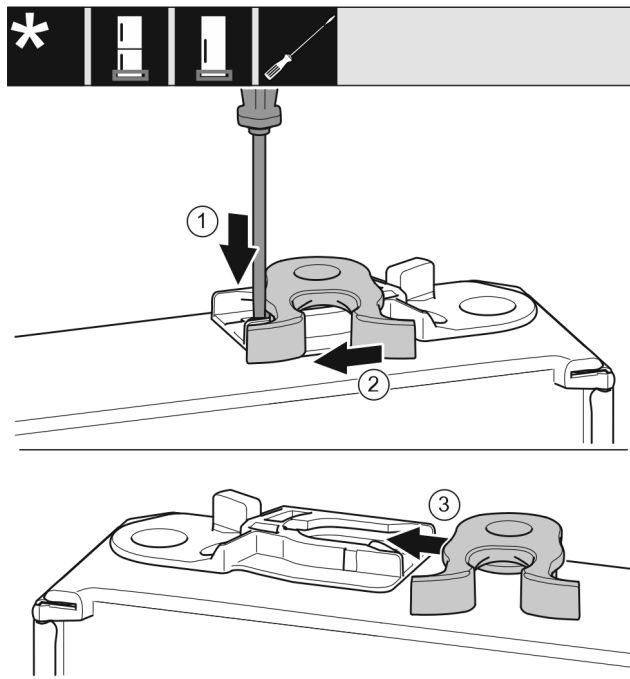

Fig. 21
- ▶ Use a slotted screwdriver to push the tab *Fig. 21 (1)* downwards.
- ▶ Pull the closing hook *Fig. 21 (2)* out of the guide.
- ▶ Insert the closing hook *Fig. 21 (3)* into the guide on the other side.